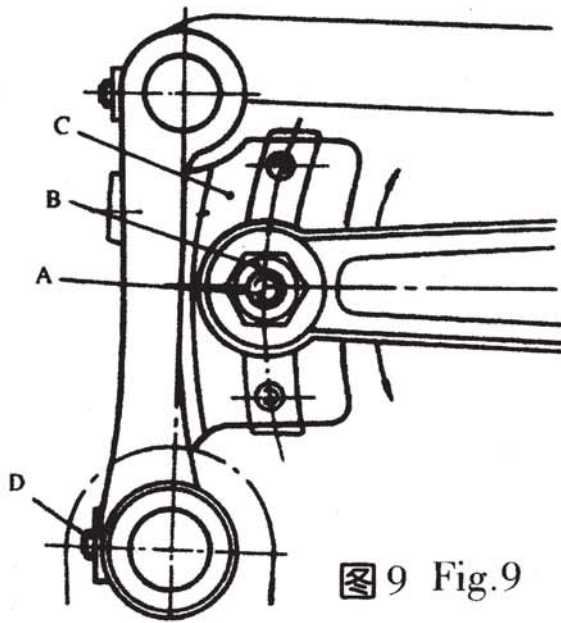

图9 Fig.9
送料牙在针板牙槽内的两侧面间隙不对称时，拧松牙架座(图9, C)两只螺钉(D)，左右移动牙架座至要求位置后再拧紧螺钉(D)。
If feed dog are not in the center in the throat plate slots, Loosen screws rear in the feed locker (C, Fig. 9), move the feed locker right or left as required. Then retighten screws(D).
针距长短的调节，是通过牙架座（图9，C）扇形槽中的针距调节螺钉（A）的上下移动来实现的。下降螺钉（A）使针距加大，升高则缩短针距。调节时拧松螺母（B）、上下移动螺钉（A）至需要的针距后再固紧螺母（B）。（自动型式的机器需卸下罩壳时再调节）
The length of the stitch can be adjusted by raising or lowering the stud(A) in the segment slot of the feed locker (C, Fig. 9). Lowering the stud will shorten the stitch. After loosening nut(B), Stud(A) can be moved accordingly. When the desired stitch length is obtained, Retighten nut(B). (For automatic style machines the cloth plate should be removed to adjust)